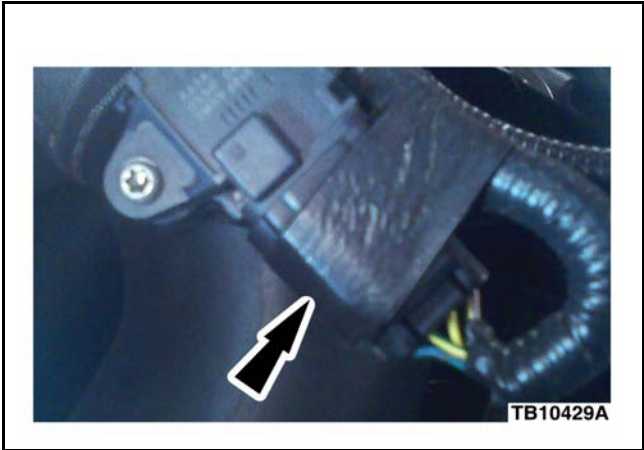

Figure 2 - Article 13-6-12
6. Using electrical tape, retain the harness to the connector shell with enlarged loop. (Figure 2)